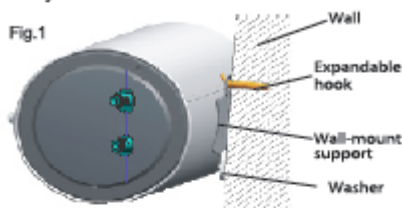

Fig.1
(Fig. 1)
- Mount the two bracket washers supplied with the water heater respectively onto the two brackets and ensure them in place, as show in Fig. 1
- Determine the installation position of the water heater. Based on the measurements indicated in Fig.2, use impact drill to drill two holes of 12mm in diameter and 65mm in depth. Insert the expandable hooks into the holes and ensure that they are securely fixed. Lift the water heater and slip its wall-mount support onto the expandable hooks (as show in Fig.1). Check to make sure the machine is securely suspended. For accessories such as safety valve, please refer to the "Installation of Safety Valve" (for reference only). Make sure to seal the joints with Teflon tapes to prevent water leakage.